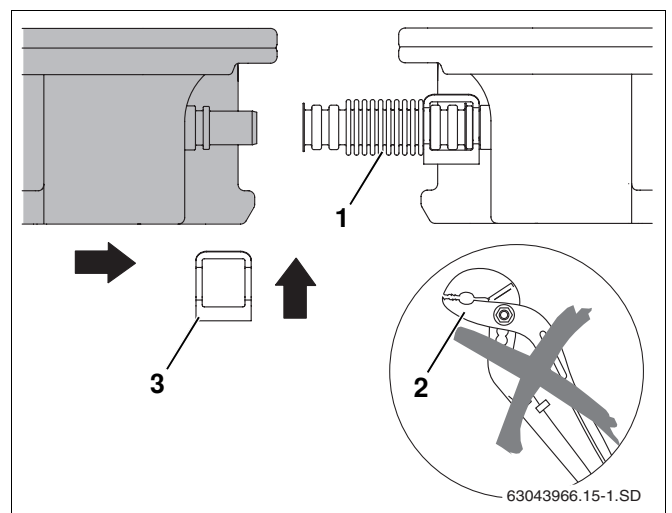

Fig. 46 Pushing second collector towards the first
- Do not use any tools, e.g. pliers (Fig. 46, **Item 2**). These could render the corrugated pipe connector unusable.
- Push the second collector on to the first in such a way that the collector connections are pushed into the preassembled corrugated pipe connectors (Fig. 46, **Item 1**) on the first collector.
- Place second bracket (Fig. 46, **Item 3**) over the corrugated pipe connector and collector connection.